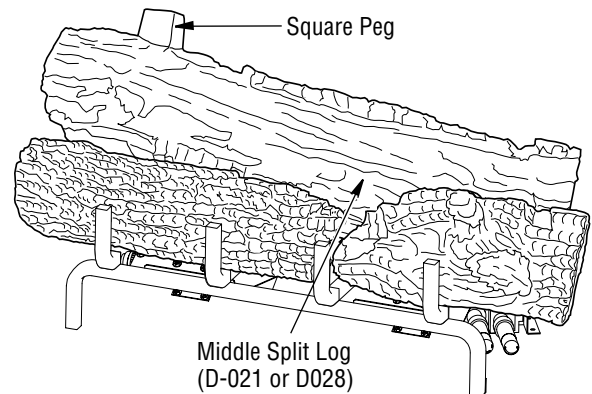

Figure 22 - Installing Middle Split Log (D-021)
- Find the middle split log (SouthernComfort30A/B or ShadyHollow30A/B models: D-021, SouthernComfort36A/B or ShadyHollow36A/B models: D-028). See **Figures 22 and 22A**. The split side of the log faces forward. The log has a notch that fits around the burner tube on the right side. The left side of the burner tube fits into the notch on the back side of this log. The log is placed properly when it sits parallel to the tube burner and the square peg is pointing up. See figures for reference.